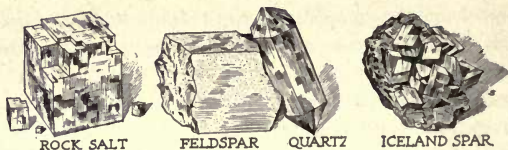

FIG. 52. A group of crystals.
**Exercise 6.** Place a small amount of a salt solution in an evaporating dish and evaporate the water. If more convenient, the solution may be placed in a plate or saucer and the water evaporated by setting the vessel in the sun or near a stove. When the water is nearly all gone, examine and describe the crystals\* of salt. Well-formed salt crystals are usually perfect cubes\* (Fig. 52).